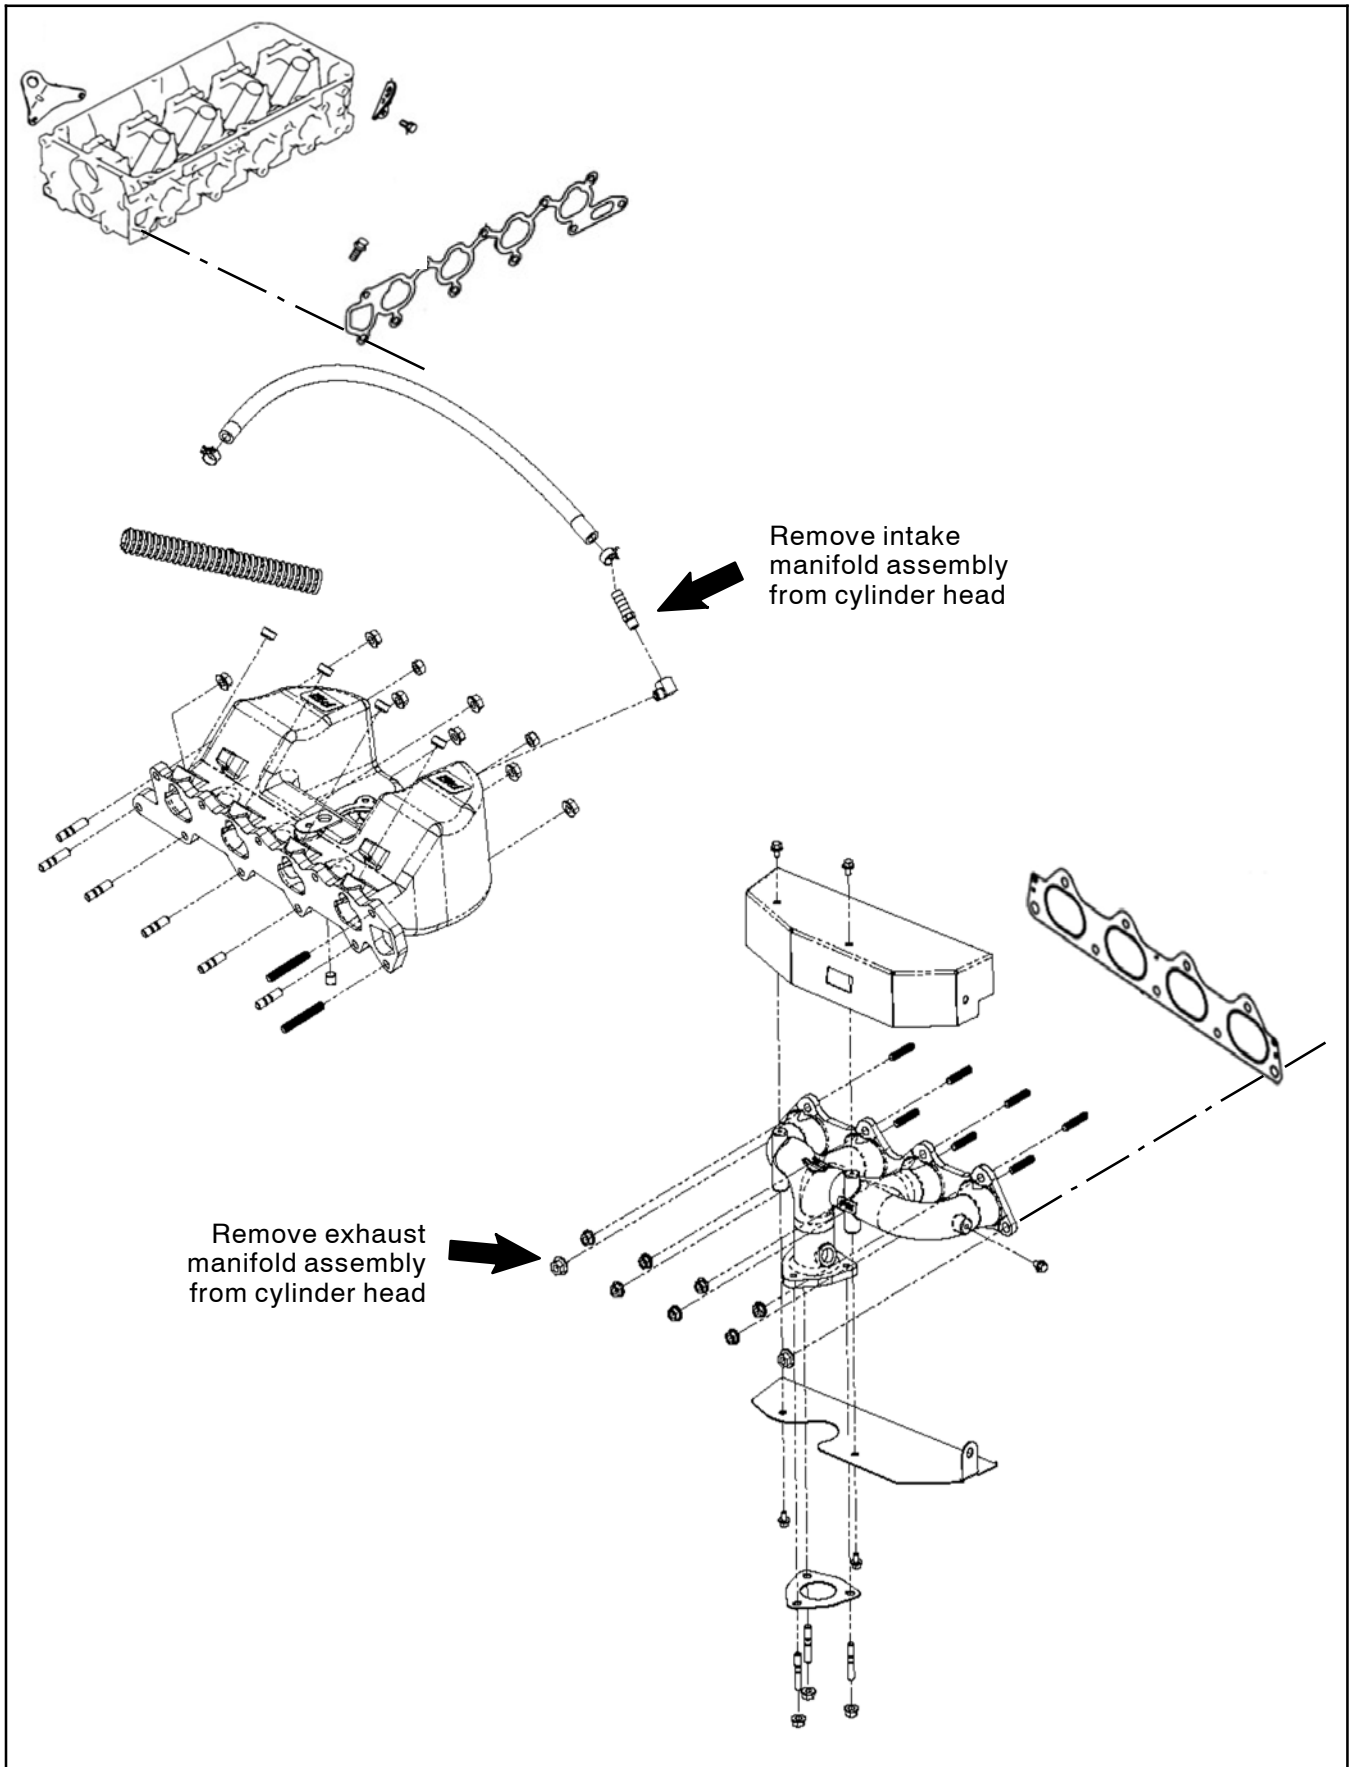

FIG. 7
10. Loosen the timing belt. (Fig. 7)
3. Remove the intake manifold from the cylinder head assembly. Set the intake manifold and hardware aside. (Fig. 7)
4. Remove the exhaust manifold from the cylinder head assembly. Set the exhaust manifold and hardware aside. (Fig. 7)
5. Remove the exhaust manifold from the cylinder head assembly. Set the exhaust manifold and hardware aside. (Fig. 7)